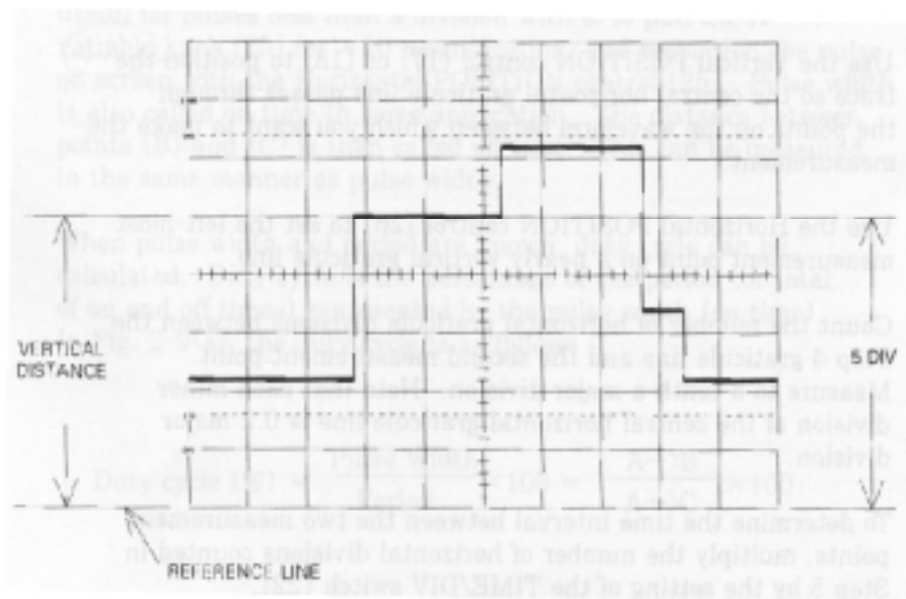

Fig. 2-8. INSTANTANEOUS VOLTAGE MEASUREMENTS
2. Adjust the TIME/DIV switch [22] or [23] for one complete cycle of waveform and set the VOLTS/DIV switch for a trace amplitude of 4 to 6 divisions (see Fig 2-8).
6. Use the Horizontal POSITION control [26] to position any point of interest on the central vertical graticule line. This line has additional calibration marks equal to 0.2 major division each. The voltage relative to ground at any point selected is equal to the number of division from that point to the ground-reference line multiplied by the VOLTS/DIV setting. In the example used for Figure 2-8 the voltage for a 0.5V/divscale is 2.5V (5.0div X 0.5V = 2.5V)